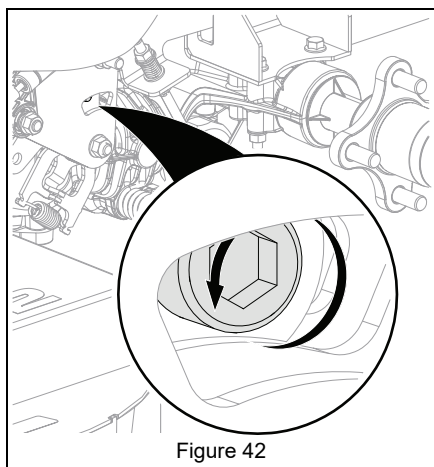

Figure 42
5. Loosen the neutral set screw on the transaxles. See Figure 42.